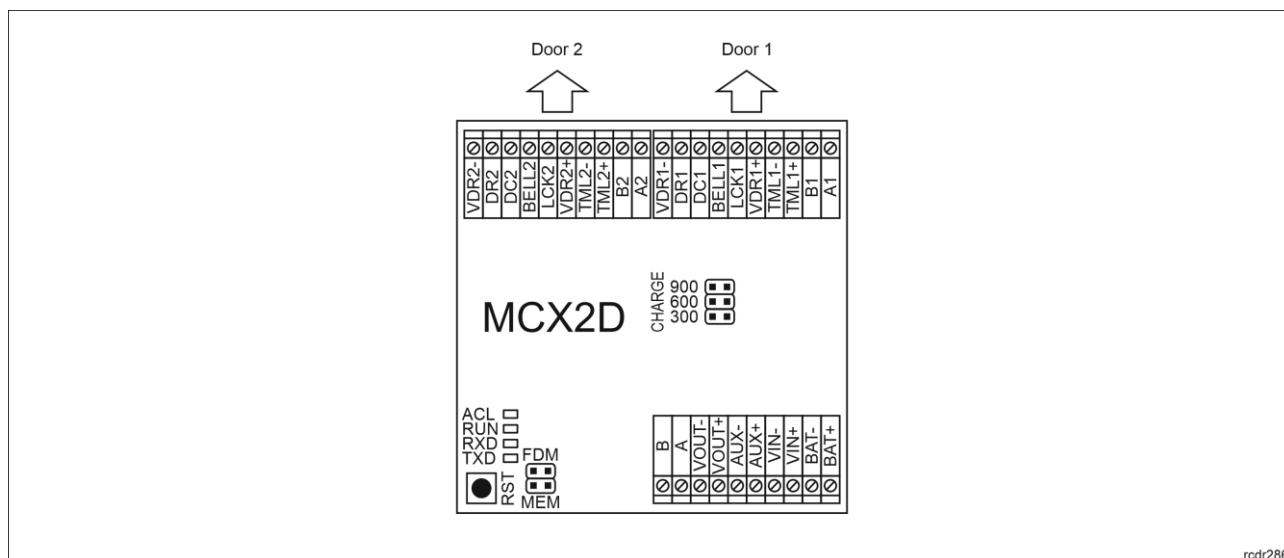

Fig. 2 MCX2D expander
MCX2D enables battery charging with 0.3A, 0.6A or 0.9A current up to the level of voltage supplied to the expander (nominal 13.8VDC). The charging current is selected with jumpers (fig. 2). When battery voltage drops to approximately 10V then it is disconnected from the expander. The battery is reconnected when the 13.8V supply is restored. In order to ensure battery charging up to 80% level within 24h (according to EN 60839 standard) following current settings should be applied:
In RACS 5 v2 system the expander can be installed at site without previous configuration. According to AN006 application note, its address and other settings can be configured from VISO v2 management software and during such configuration the access to its service contacts (fig. 2) is not required.
2. Remove jumper from MEM contacts (fig. 2) if it is placed there.
2. Place jumper on MEM contacts (fig. 2).